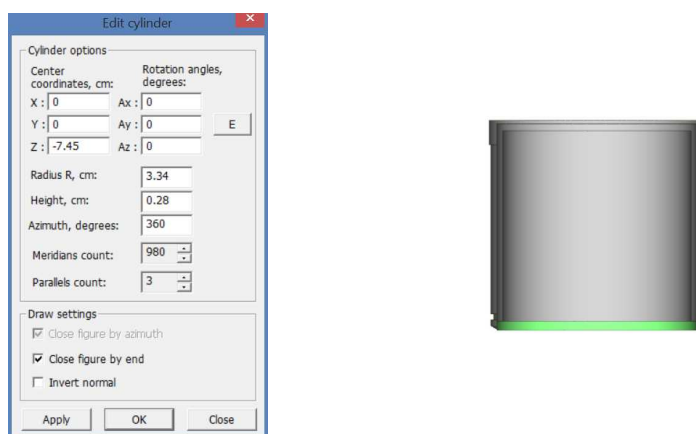

Figure 53.4
7.4 Add the element 'glass crystal'. To do this in the right pane click the button **New Element** and enter the name 'Glass crystal'. Next, choose from the list the type of surface **Cylinder**. In the dialog window **Edit Cylinder** enter the data for the construction as shown in Figure 53.4 [Section 3.1].